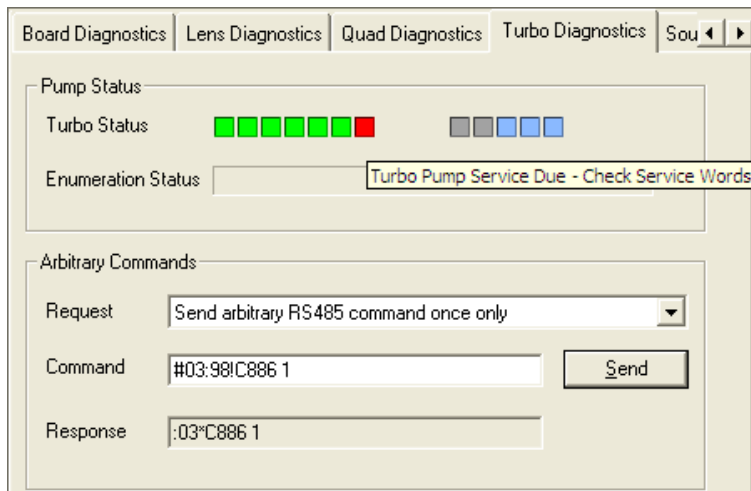

Figure 21 - Sending the service flag commands
- Click the **Turbo Diagnostics** tab (Figure 21).